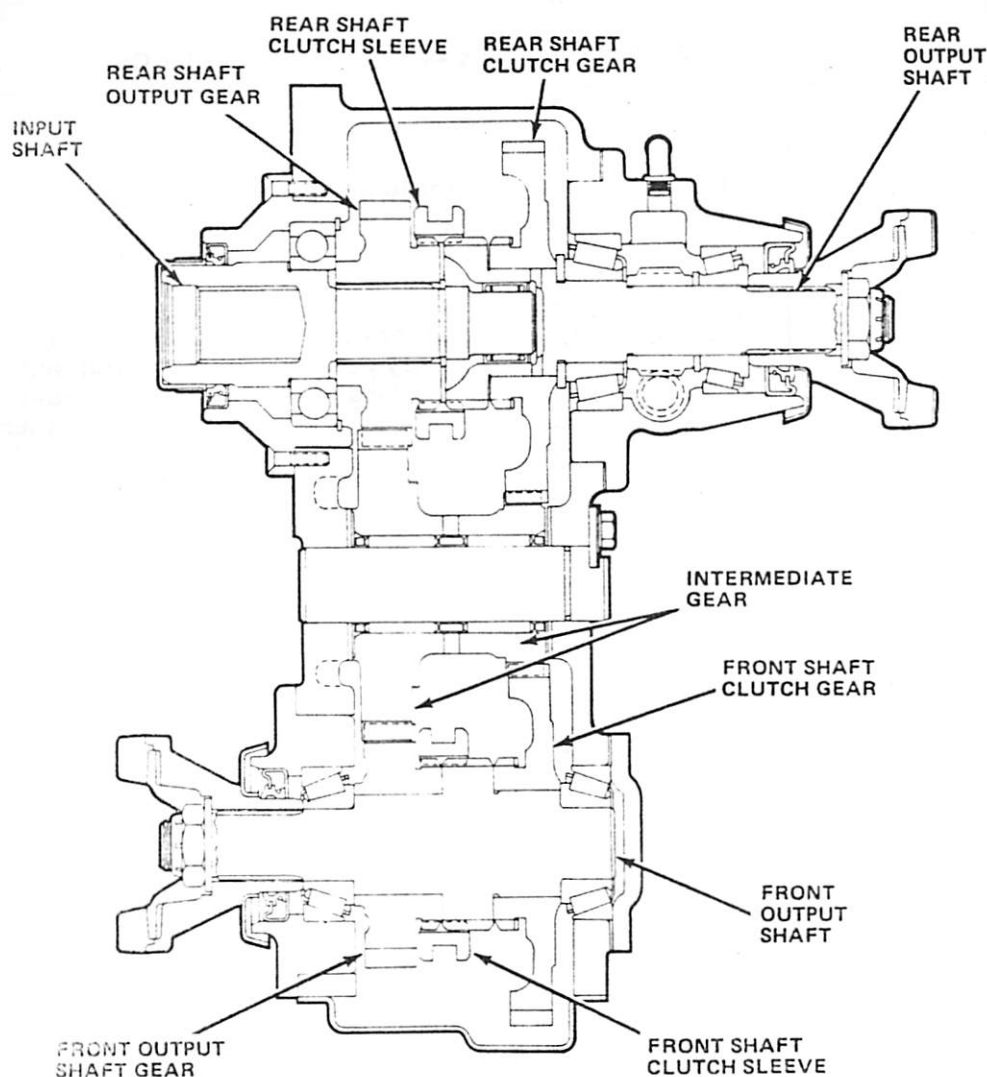

Fig. 2D-70 Power Flow—Model 300
- (1) Raise vehicle.
- (2) Place support stand under transmission and remove rear crossmember.
- (3) Disconnect front or rear propeller shaft at the transfer case yoke. Place alignment marks on shaft and yoke for assembly reference before disconnecting shaft.
- (4) Remove transfer case yoke nut and washer using Tool J-8614-01 (fig. 2D-73).
- (5) Remove transfer yoke using Tools J-8614-01, 02, 03, (fig. 2D-74).
- (6) Remove oil seal using Tool J-25180 (fig. 2D-75).
- (7) Install replacement seal using Tool J-25160.
- (8) Install yoke, washer and nut. Tighten nut to 120 foot-pounds (163 N•m) torque. Use Tool J-8614-01 to hold yoke while tightening nut.